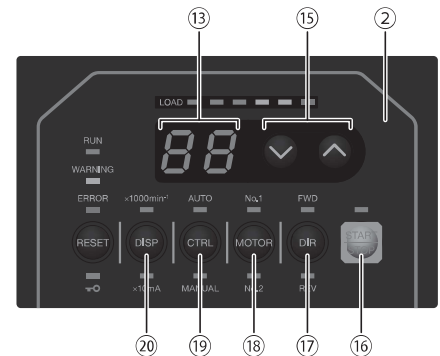

Fig. 20
15 - 2 Select Control Mode (MANUAL / AUTO). (Select the Control Button (CTRL) ①⑨ of the Fig. 20.)
- (1) Using the Control Button (CTRL) ①⑨, you can switch the operation mode for starting / stopping the Motor, setting rotation direction, motor speed and the like.
- (1) Setting Motor Rotating Direction
Set Motor Rotating Direction (Set the Rotation Direction Button (DIR) ①⑦ of the Fig. 20.)
- (2) Motor Selection
Select the motor spindle to be controlled. (Motor Spindle Selection (MOTOR) Button ①⑧ of the Fig. 20.) If motor spindle No. 1 was selected, No. 1 LED turns on. If motor spindle No. 2 was selected, No. 2 LED turns on.
- (3) Motor Start / Stop (Motor Start / Stop by pushing the START / STOP Button (START / STOP) ①⑥ of the Fig. 20.)
(4) Setting Motor Speed
Setting Motor Speed (Set the Motor Speed Adjustment Button (SPEED  , ) ⑮ of the Fig. 20.)